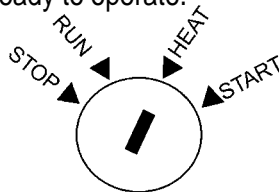

Figure 23. Starter Switch to 'HEAT' position
10. Turn the key further to the 'Heat' position. The preheat light will go on (Figure 23). Once the light turns off, the engine is ready to operate.